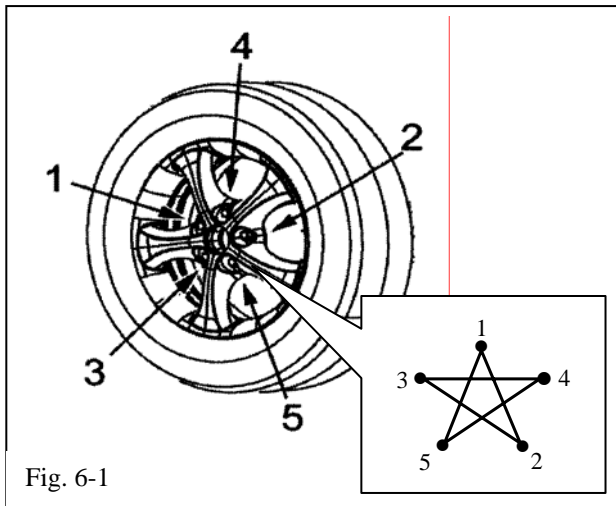

Fig. 6-1
- ⚠ (a) Install wheel/tire assembly on vehicle. Hand start the lug nuts during installation. Tighten lug nuts in sequence 1 through 5 (Fig. 6-1). Ensure that the socket does not scuff the wheel. Tighten to 97 lbf-ft (131N-m) using a torque wrench.